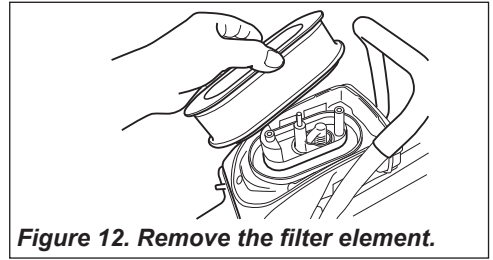

Figure 12. Remove the filter element.
3. Unscrew the two bolts securing the filter element, remove the filter element. See Figure 12.